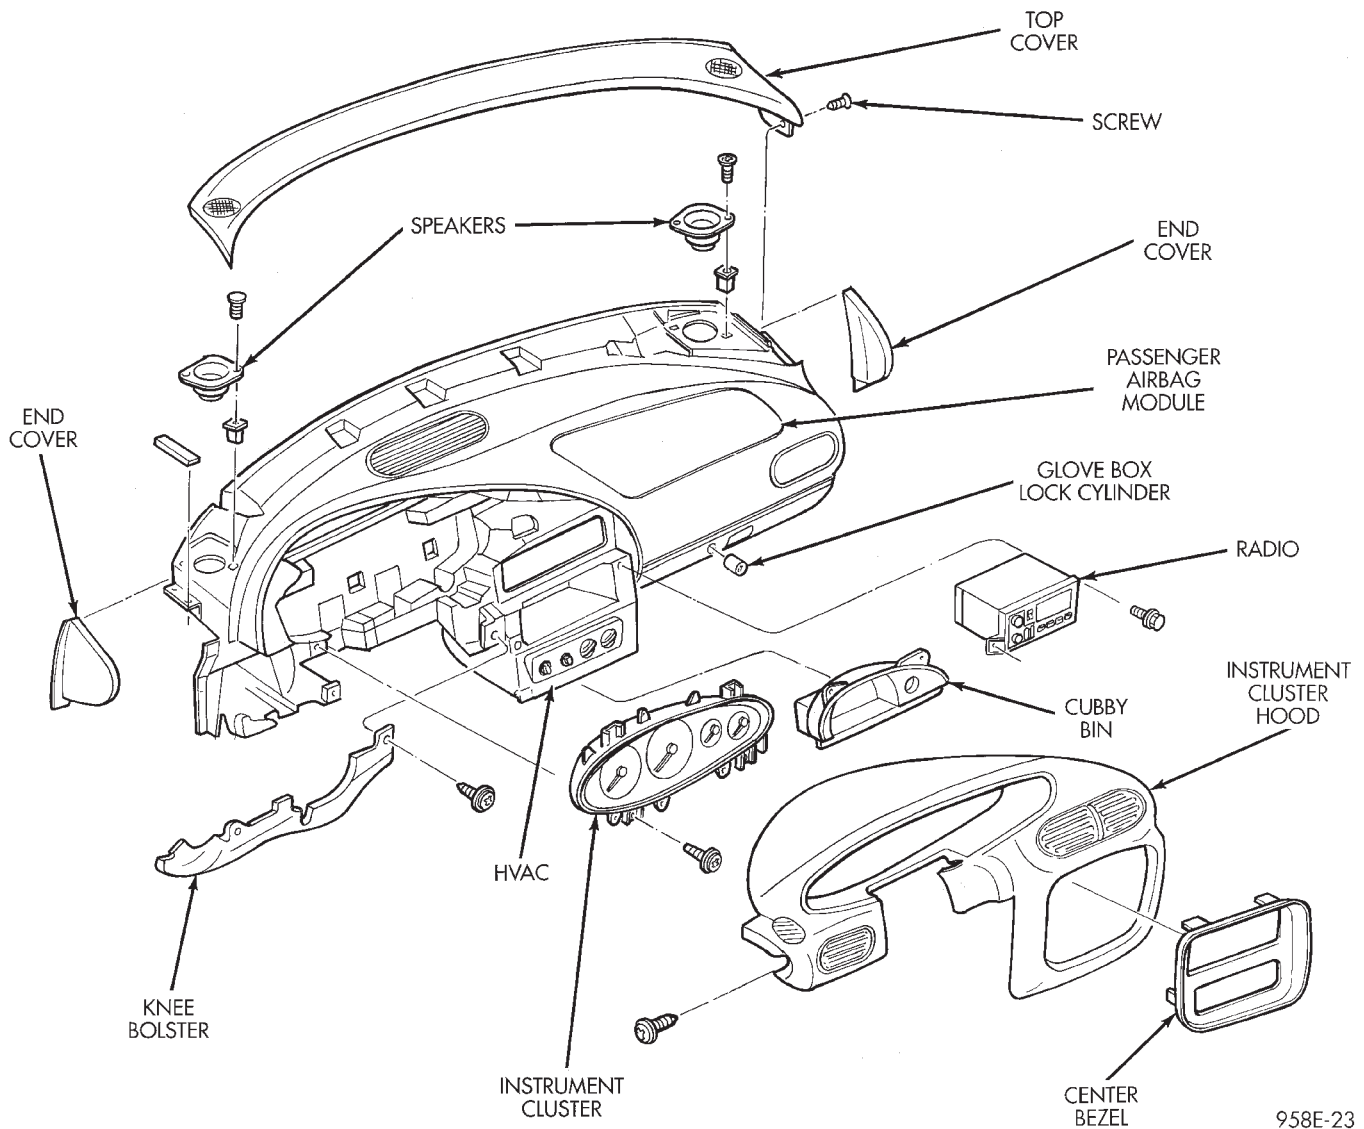

Fig. 11 Instrument Panel Breakdown
(1) Disconnect and isolate the battery negative remote cable.
(2) Open both vehicle front doors. Remove left end cover by pulling outboard. Remove right end cover by pulling rearward (Fig. 11).
(3) Remove transmission range indicator bezel from floor console. Use care not to mar the bezel or console.
(4) Remove floor center console. Remove two mounting screws in the front and two mounting screws under the decorative caps in the rear.
(5) Disconnect Airbag Control Module (ACM).
(6) Using a trim stick (special tool #C-4755), gently pry out on center instrument panel trim bezel and remove.
(7) Remove instrument cluster hood.
(1) Open the left door and pull on the access handle and pivoting around A-pillar to disengage end cover clips. Fuse Puller, Spare Fuses And Fuse Diagram Are Located On Left End Cover. Fuse Access Is Under Left End Cover (Fig. 11).
(2) Open right door and glove box door.
(3) Remove right end cover by pulling rearward to disengage clips.